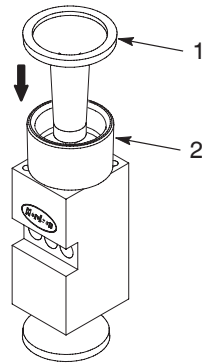

Figure 9-19 Using a base tool to push the needle-and-piston assembly into the module body
11. See Figure 9-19. Use another base tool (or a similar tool, such as a socket or nut driver) to push the needle-and-piston assembly through the seals and into the bore of the module body until the needle seats.